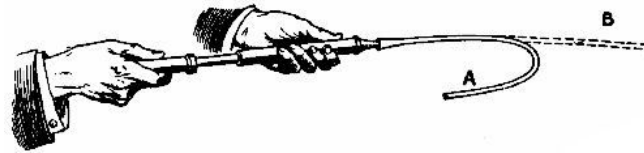

Fig. 13.—Showing the principle of the steam-gauge.
It is of the utmost importance that a person in charge of a boiler should know what pressure the steam has reached. Every boiler is therefore fitted with one *steam-gauge*; many with two, lest one might be unreliable. There are two principal types of steam-gauge:—(1) The Bourdon; (2) the Schäffer-Budenberg. The principle of the Bourdon is illustrated by Fig. 13, in which A is a piece of rubber tubing closed at one end, and at the other drawn over the nozzle of a cycle tyre inflator. If bent in a curve, as shown, the section of the tube is an oval. When air is pumped in, the rubber walls endeavour to assume a circular section, because this shape encloses a larger area than an oval of equal circumference, and therefore makes room for a larger volume of air. In doing so the tube straightens itself, and assumes the position indicated by the dotted lines.